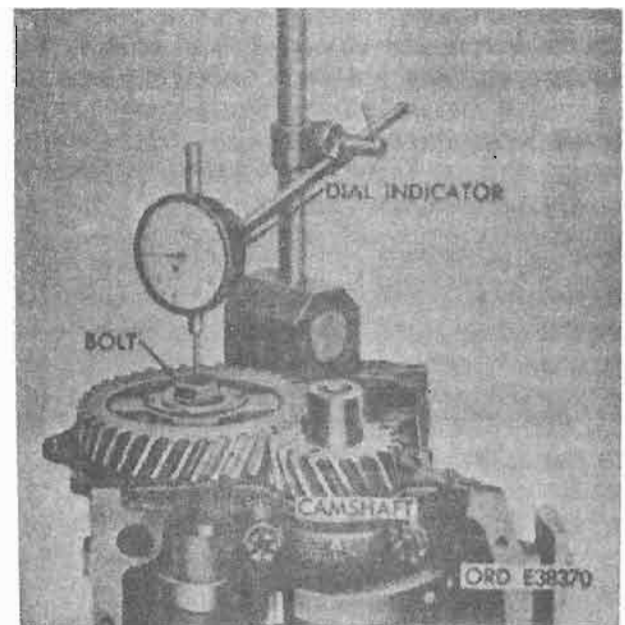

Figure 4-103. Measuring camshaft end play.
d. *Camshaft End Play* (fig. 4-103). Place dial indicator on cylinder block with indicator tip against end of camshaft retaining bolt. With suitable lever, pry camshaft to limit of play and record. Refer to repair standards (table 4-8).